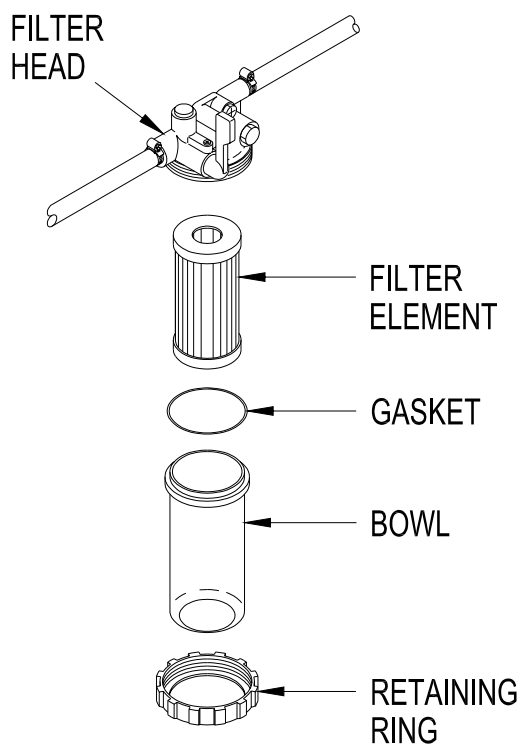

Figure 4-2. Fuel Filter Element Replacement
- (2) Close fuel shutoff valve.
- (3) Unscrew retaining ring (Figure 4-2) and separate bowl and head using care not to spill diesel fuel trapped in bowl. Then pour diesel fuel into suitable container.
- (4) Remove and discard fuel filter element and gasket.